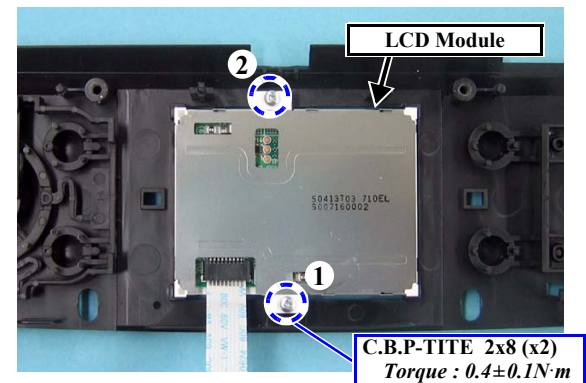

Figure 4-9. Removing the LCD Module
- Until the carriage is unlocked, turn the EJ Roller gear on the left side of the printer in the direction of the arrow as shown in Figure 4-9.
4. Remove the screws (x2), and remove the LCD Module. (Fig. 4-9)
- Tighten the screws for the LCD Module in the order specified. (Fig. 4-9)